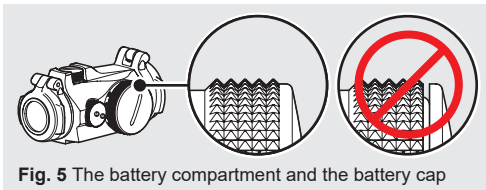

Fig. 5 The battery compartment and the battery cap
Clean contact surfaces and verify that the battery (6) is working and that it is installed correctly according to 2.1. Verify that there is zero gap between the battery cap (5) and the battery compartment (see Fig. 5). If the intensity switch (7) is defective, notify local dealer/armourer.